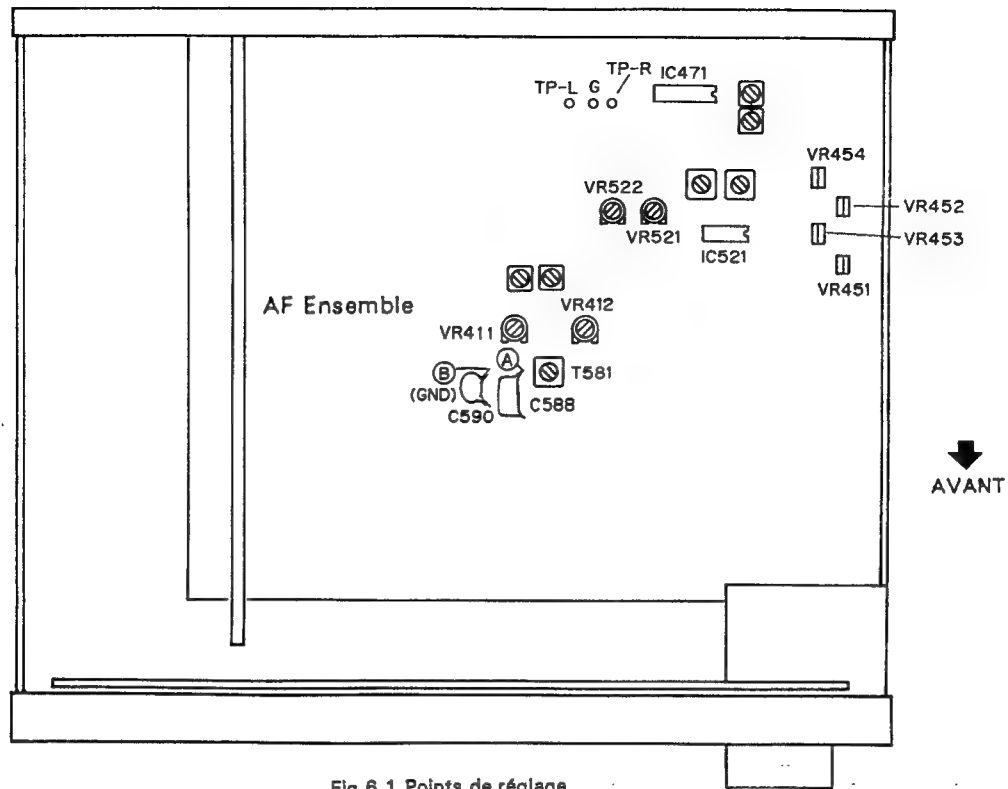

Fig 6.1 Points de réglage
| 1          | NORM          | REC          | Load the test tape STD-630 and set to record mode.                              | —                          | Area between ① and ② (A F Ass'y) shown in Fig. 6-1. | Confirm that the oscillation frequency is 105 kHz $\pm$ 1 kHz.   | If the adjustment value cannot be set within the specification, adjust the T581. |